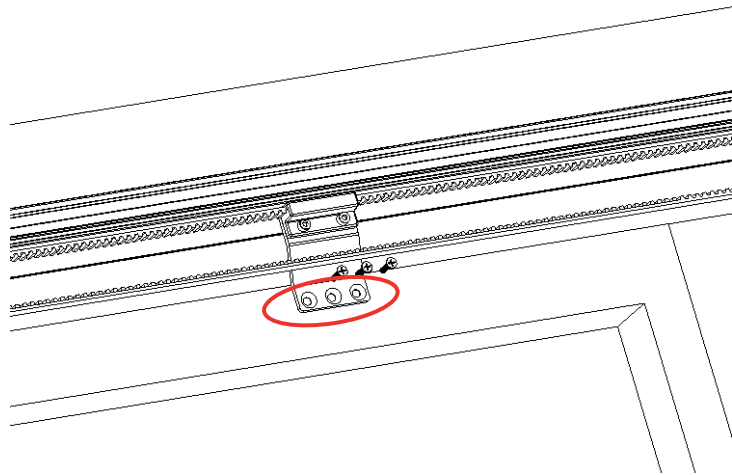

Figure 33: The top bracket position.
1. **Open** both doors fully. Fit the top bracket onto the top loop of the belt (Figure 33) at the position you marked on the left-hand door earlier.